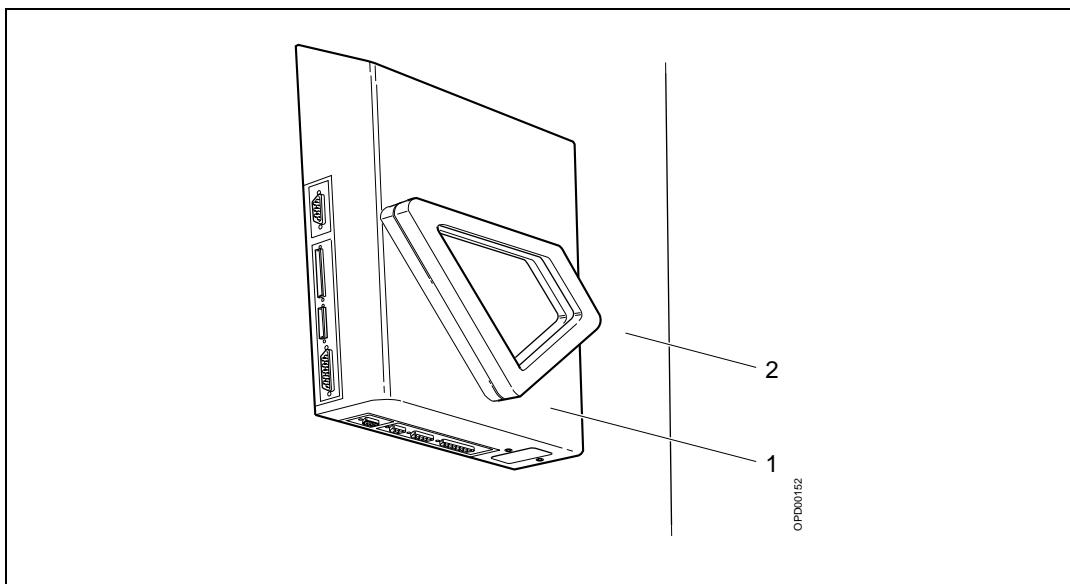

Fig. 3 Biopsy controller
3. Install the rear cover (2/Fig. 3) on the stand and attach the biopsy controller (1/Fig. 3) to the holders. Switch on the power-on switch on the biopsy controller.